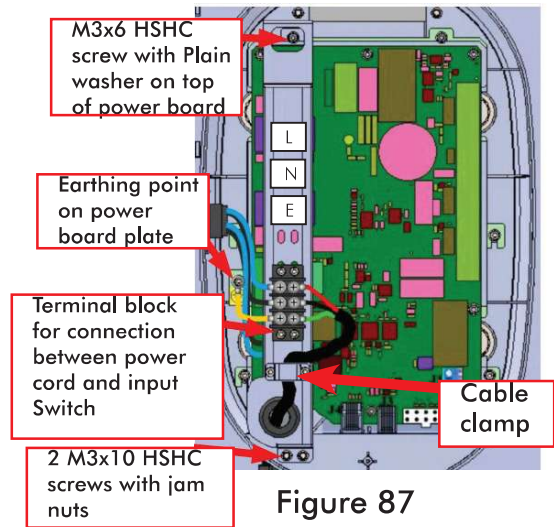

Figure 87
- Disconnect the "Live(Black) and Neutral(Blue) wires(Ring terminals) of switch" from the terminal block fixed on the power board clamp using phillips screw driver as shown in Figure 87 .
- Disconnect the GND(ring terminal) wire and Ground ring terminal of optional plate(applicable if optional plate is used) from the GND terminal on power board plate located just below the switch by removing the M3X6 Hex. socket head cap screw using 2.5mm allen key as shown in the Figure 87 .
- Remove the power board clamp from the base unit by removing 1 no. of M3X6 Hex. socket head cap Screw on top side of the power board using 2.5mm allen key and 2 no's of M3X10 Hex. socket head cap screws, plain washers and Jam nuts (screws will be inserted from rear side and nut with washer to be fixed from front side) using 2.5mm allen key and 5.5mm nut driver at the locations shown in Figure 87 .
- Fix back the power board clamp to the base unit by fixing 1 no. of M3X6 HSHC Screw on top of the power board using 2.5mm allen key and 2 no's of M3X10 Hex. socket head cap screws, plain washers and Jam nuts (screws to be inserted from rear side and nut with washer to be fixed from front side) using 2.5mm allen key and 5.5mm nut driver shown in Figure 87 .
- Connect the GND wire terminal block and ground wire coming from optional plate(applicable if optional 16" plate is used) terminal on power board plate just below the switch using 1M3X6 Hex. socket head cap screw (with washers) using 2.5mm allen key as shown in the Figure 87 .
- Connect the "Live(Black) and Neutral(Blue) wires(Ring terminals) coming from switch to the terminal block fixed on the base unit clamp using phillips screw driver as shown in Figure 87 .